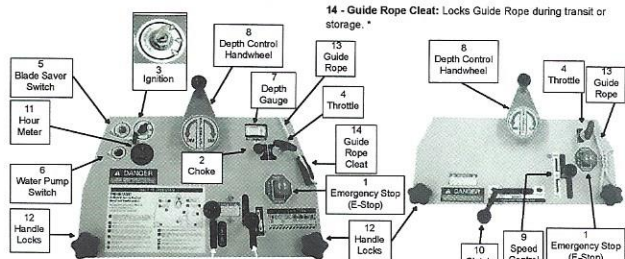
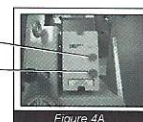

Figure 2
Figure 4A
- Locate and be familiar with all engine and saw controls (Figure 2).
- Turn Engine Ignition key to START. After engine starts, leave Engine Ignition in the RUN position. Ignition position on saw will vary depending on engine. (Review Figure 2)
- Be sure the "STOP" (red) button is depressed (Figure 4A). Hook up the electrical power source by plugging into the connector provided. If the cord does not mate with the connector, consult a qualified licensed electrician before continuing. Be sure the equipment is properly grounded.
- After completing the previous step, to start the motor, be sure the Emergency Stop (E-Stop) is in the UP position (Figure 2). Press the "START" (green) button (Figure 4A).